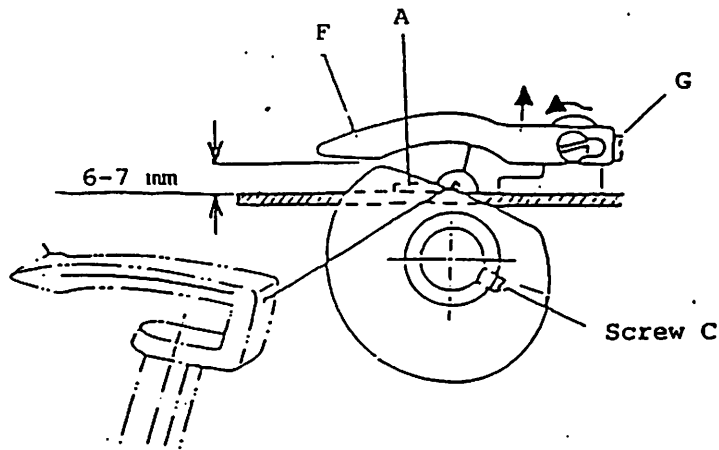

Fig. 7
9. Adjustment of Looper Thread Takeup (Refer to Fig. 7.)
Loosen the screw C (Fig. 7) for adjusting as above.